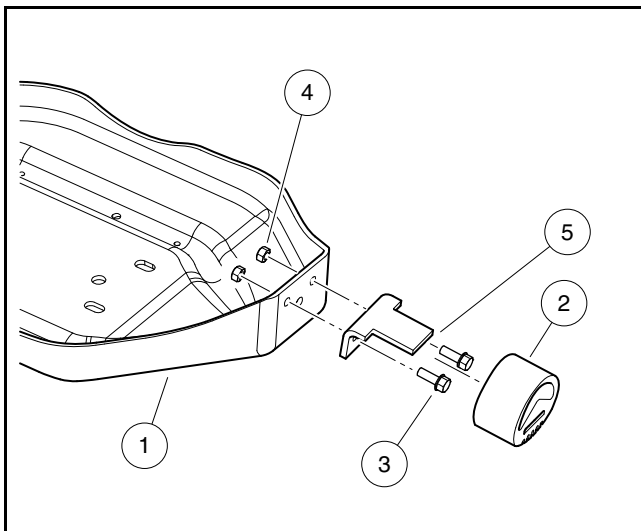

Figure 28-14 Snubber
1. Support the powertrain with a floor jack under the engine pan (1) so that the snubber (2) is raised slightly and does not rest on the vehicle frame (**Figure 28-14, Page 28-15**).
2. Remove the two bolts (3) and two lock nuts (4) securing the snubber bracket (5) to the engine pan (1).
3. Slide snubber (2) and bracket (5) assembly toward battery to remove it from vehicle.
4. Slide snubber (2) off bracket (5).
1. Slide snubber (2) onto bracket (5) (**Figure 28-14, Page 28-15**).
2. Install bracket and snubber assembly onto engine pan (1).
3. Tighten lock nuts (4) from 20 to 25 lb·ft (27.1 to 33.9 N·m).